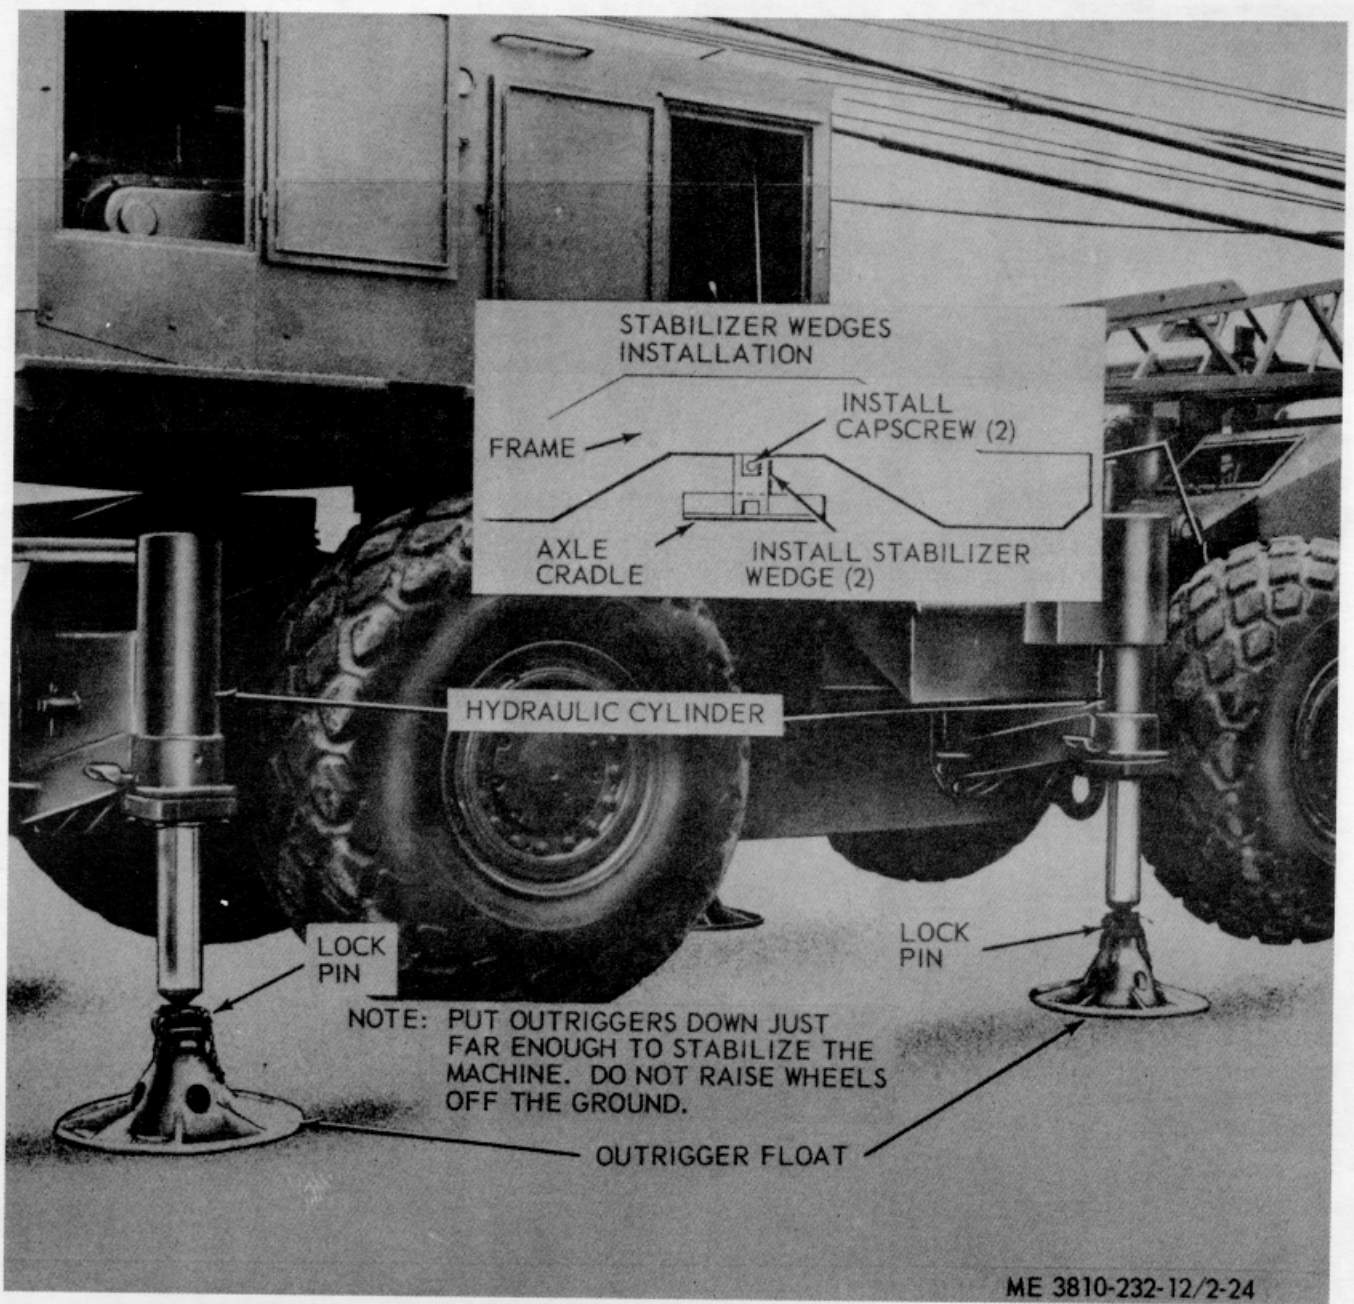

Figure 2-24. Outrigger floats in in operating position or stabilizer wedges, installation.
(2) Position the outrigger float on the ram and secure with lock pin, or install the stabilizer wedges as illustrated in figure 2-24.
(2) Position the outrigger float on the ram and secure with lock pin as illustrated in figure 2-24.
(3) Position the outriggers in working position by operating their respective controls.
**When the crane is being operated, the transmission directional control lever (13, fig. 2-14) on carrier should be moved to neutral position and the parking brake set. Position outriggers or install stabilizer wedges (fig. 2-24).**